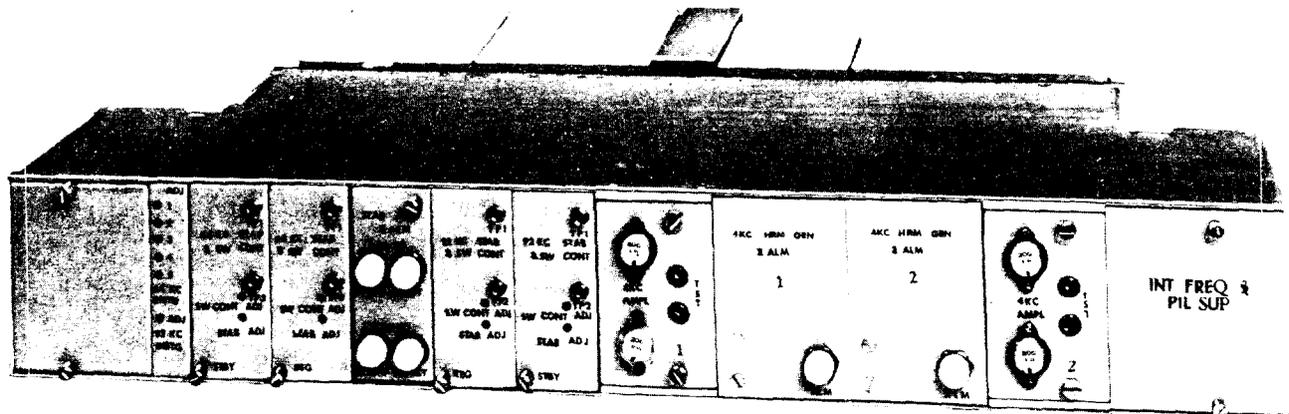
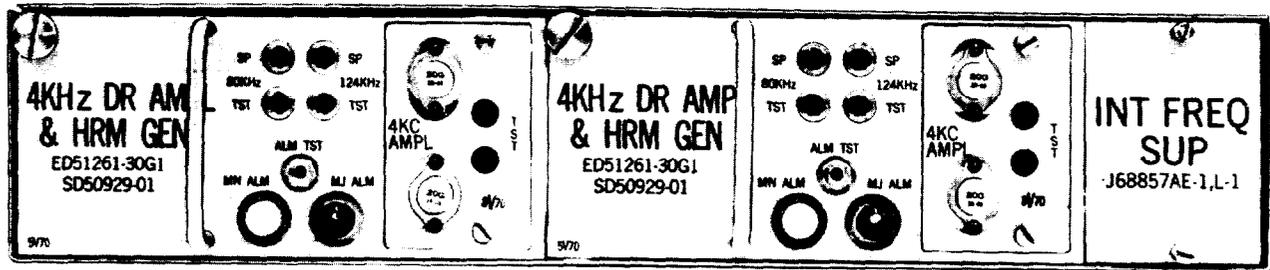

Fig. 2—Intermediate Frequency Supply J68857N
Fig. 3—Intermediate Frequency Supply J68857AE
The 12-kHz input signals for the group harmonic generator unit are supplied by intermediate frequency supply J68857D, J68857N (Fig. 2), or J68857AE (Fig. 3). Intermediate frequency supply J68857D (MD) was furnished in early L600A terminals. This supply is the same as J68857N, except the 80-kHz circuit is not included.